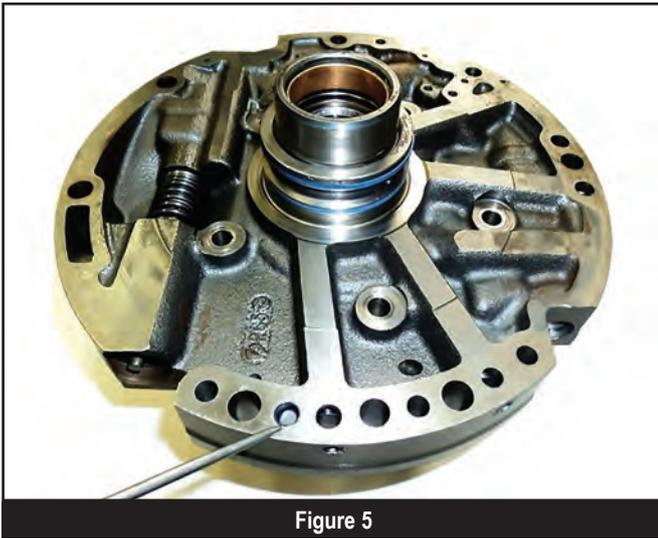

Figure 5
1. Plug the reverse boost passage in stator support (figure 5). That'll close the reverse boost circuit, eliminating dangerously high line pressure in reverse. I had a quantity of 0.355" cup plugs made some time ago for this purpose.